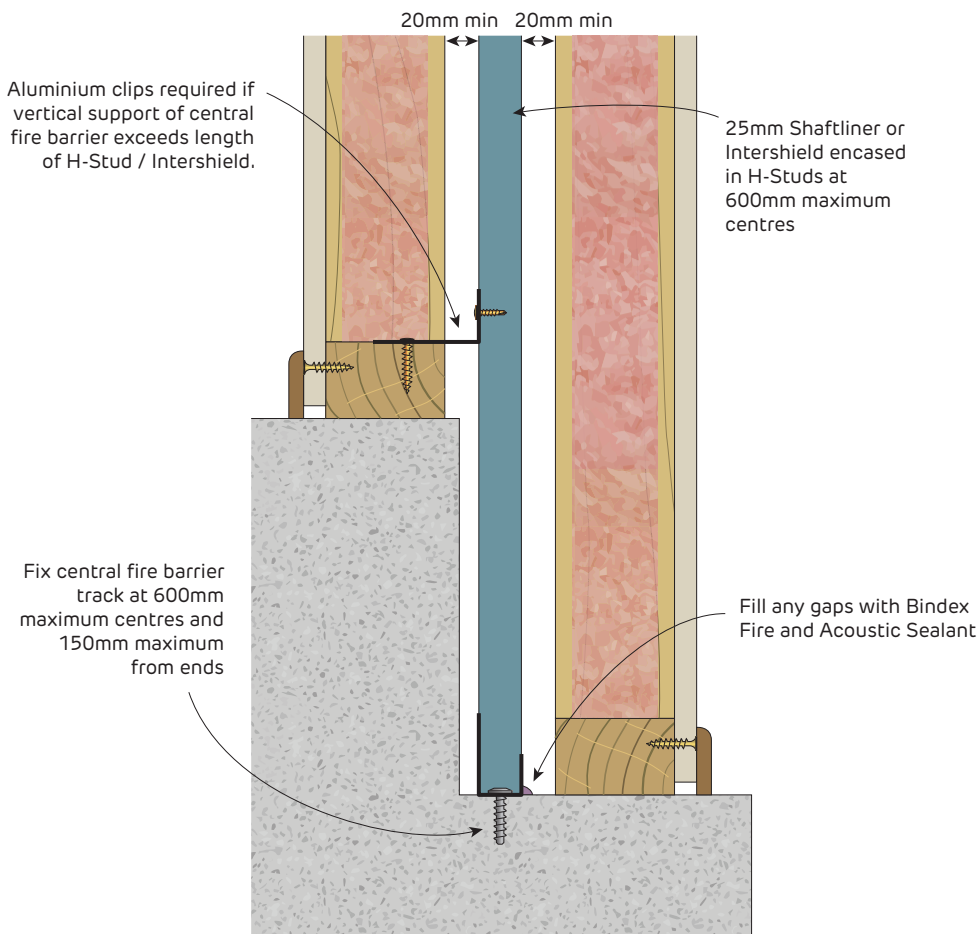

**FIGURE 25 Suspended Ground Floor**
- > At floor joists to 150mm above floor level [Figures 25, 30 - 34]